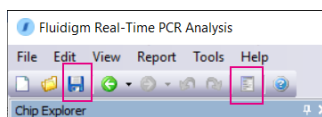

Figure 20. Save and Export buttons
- 6 Set the following Analysis Settings, then click **Analyze** to analyze the IFC run (Figure 20).